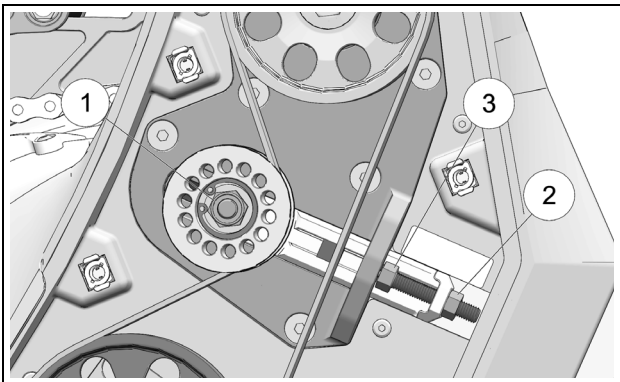

Figure 49
- Loosen tensioner pulley nut (1)  $\frac{1}{2}$  to  $\frac{3}{4}$  turn. See Figure 49.
**IMPORTANT:** Do not loosen tensioner pulley nut (1) more than  $\frac{1}{2}$  to  $\frac{3}{4}$  turn. If the nut is too loose during the adjustment process, the belt tension could increase when the nut is tightened back.
- Loosen lock nut (2) on Belt Tensioner adjusting bolt. See Figure 49.
- Rotate Belt Tensioner adjusting bolt (3) to raise or lower belt tension. See Figure 49.
- Tighten tensioner pulley nut (1) back to 55 Nm (38 lb-ft) of torque. See Figure 49.